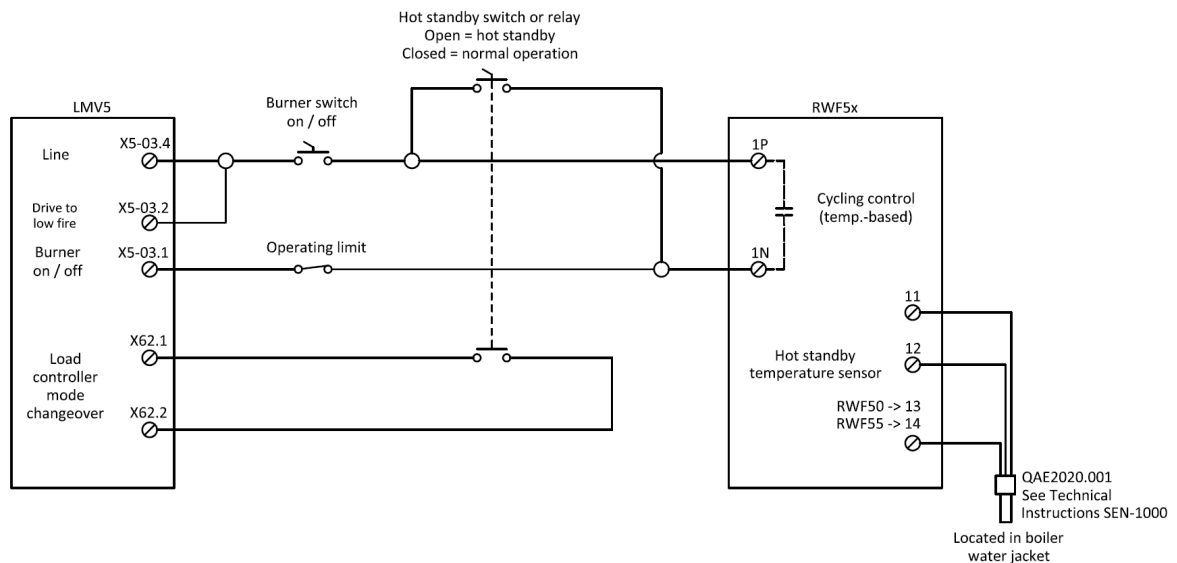

Figure 2: LMV5 to RWF5x Hot Standby Only Wiring
1. Wire the RWF5x to the LMV5 as shown in Figure 2.